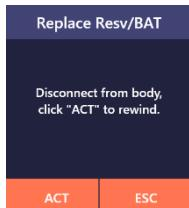

Figure 10.1
(1) Disconnect from body (as shown in Figure 10.1). Click "ACT" to rewind the push rod and the user can continue to replace the reservoir, or click "ESC" to return to the "More" interface.